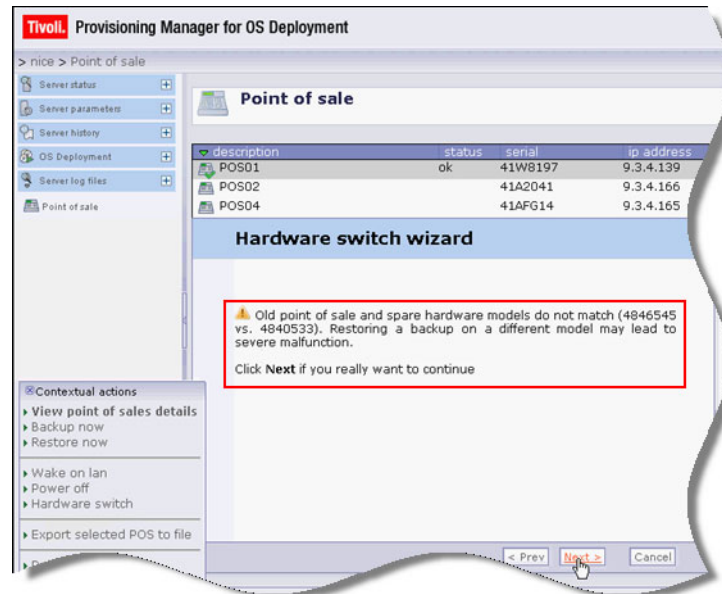

Figure 5-33 Warning that the POS systems are not identical
4. At this point, the POS plug-in recognizes that we have chosen to replace POS01 with a different model of POS terminal and it displays a warning (Figure 5-33 on page 122).